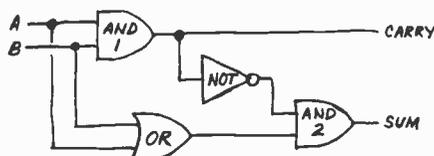

Fig. 4. Logic array for XOR circuit.
**Complex Logic Systems.** Logic systems that contain three or more basic logic elements are termed "complex." One of the simplest of the complex logic systems is the EXCLUSIVE OR (sometimes written XOR) function shown diagrammatically in Fig. 4. From the truth table, note that this function is identical to the OR function with one important exception: A true condition exists only when one or the other condition, but not both, is true.
input B in the EXCLUSIVE OR circuit shown in Fig. 4. Since only one input is enabled (input A), AND circuit 1 does not turn on. Hence, a 0 is present at the CARRY output. OR circuit 1 does turn on, since only one input need be present. Since the NOT circuit inverts the 0 from AND circuit 1 into a logic 1, AND circuit 2 has two input signals and is therefore turned on. The result is a logic 1 at the SUM output. (The circuit has added 0 + 1 to obtain 1.)